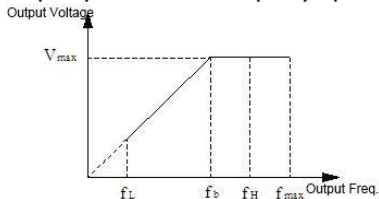

Figure F0-1 Voltage and Frequency
The maximum output frequency is highest allowed frequency for output, and the reference of acc./dec. time setting, as f_{\max} showed in the following figure; basic running frequency is the minimum frequency when output highest voltage, usually the rated frequency of motor, as f_b showed in the following figure; the maximum output voltage V_{\max} is the output voltage when output basic running frequency, usually rated voltage of the motor, as V_{\max} showed in the following figure; f_H , f_L are defined as upper limit frequency and lower limit frequency separately, as showed in figure F0-1:
4. The maximum output frequency, upper limit frequency and lower limit frequency have relations as showed in figure F0-1, please notice the numerical value order when setting.